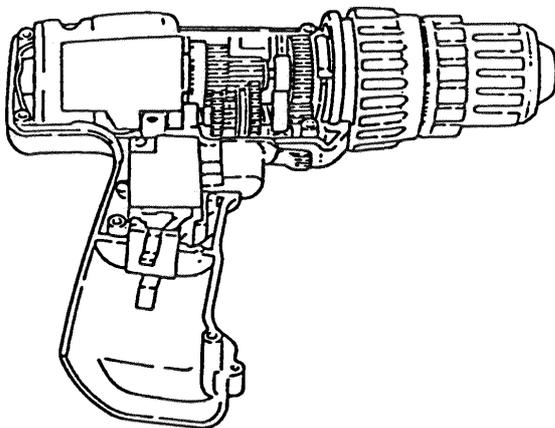

Fig. 18
- [2] Install the parts assembled in Para. [1], above, into Housing (A). (Fig. 18)